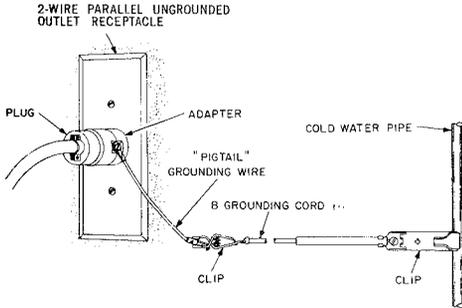

Fig. 8 – Grounding Pigtail
- If grounded object selected is far away from power outlet use the B Grounding Cord to connect the object to the ground pigtail wire on the adapter (See Fig. 8).